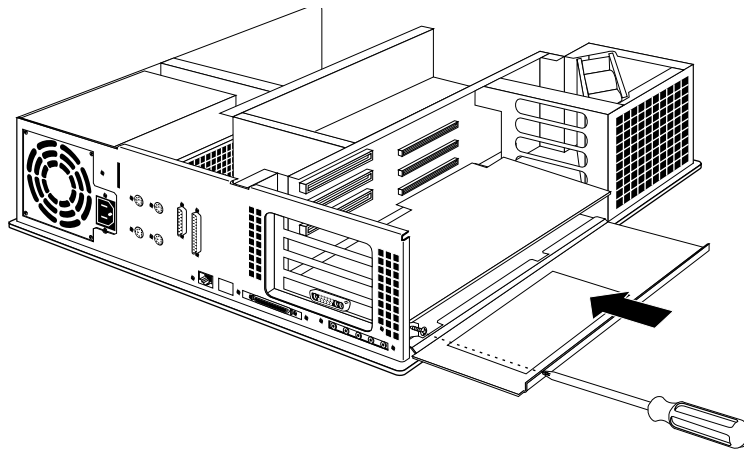

Figure 2-24 Replacing the XL Graphics Board in the Chassis
- Align the metal extension on the left of the board with the slot on the chassis. At the same time align the right edge of the board with the metal grooves on the right of the chassis, as shown in Figure 2-24.
2. Insert and tighten the screw that holds the board to the chassis. The screw opening is located on the metal extension on the left side of the board. (See Figure 2-24).